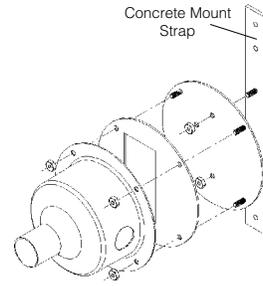

Fig. 3
1. Attach the concrete mount strap to the cover plate as shown in Fig.3.